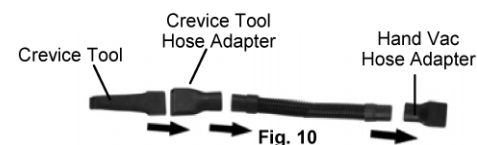

Fig. 10
2. Insert one end of the flexible hose into the hand vac hose adapter and the other end into the crevice tool adapter. (Fig.10)
3. Insert the crevice tool (located in the onboard storage caddy), into the crevice tool adapter. (Fig.10)